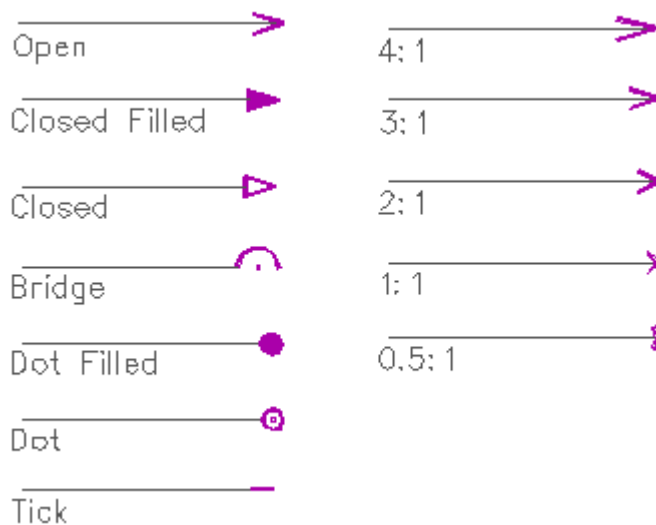

Figure 13.11: Examples of different arrowhead styles (left) and aspect ratios (right)
- Choose an arrowhead style. Click on Style in the Arrows menu. A list of five arrowhead styles appears (see Figure 13.11 for examples).
8. Use the value menu or type a number for the aspect ratio and press (Enter). See Figure 13.11 for examples of aspect settings. An ANSI-standard arrowhead has an aspect ratio of 6.